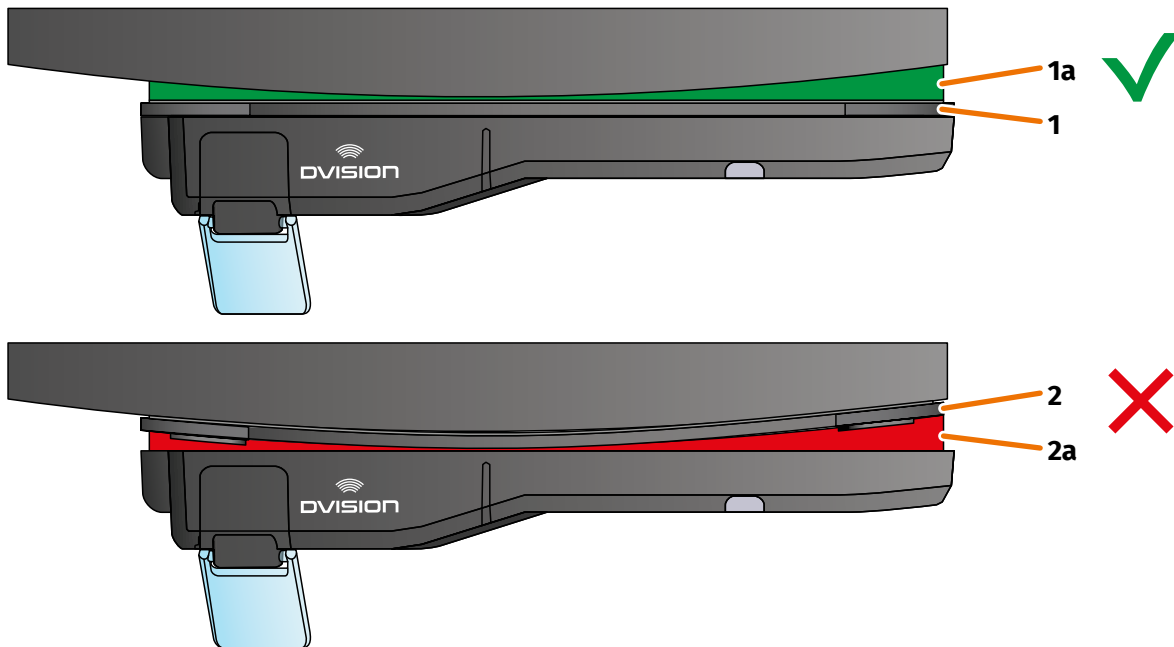

FIGURE 15 // Example: straight and curved mounting surface
- Check whether the helmet adapter sits correctly on the helmet. To do so, use the magnets to attach the DVISION module to the helmet adapter. The DVISION module must lie flush against the helmet adapter (FIGURE 15/1). There must be no visible gap between the DVISION module and the helmet adapter (FIGURE 15/2a). Sugru can compensate a curvature in the mounting surface (FIGURE 15/1a).